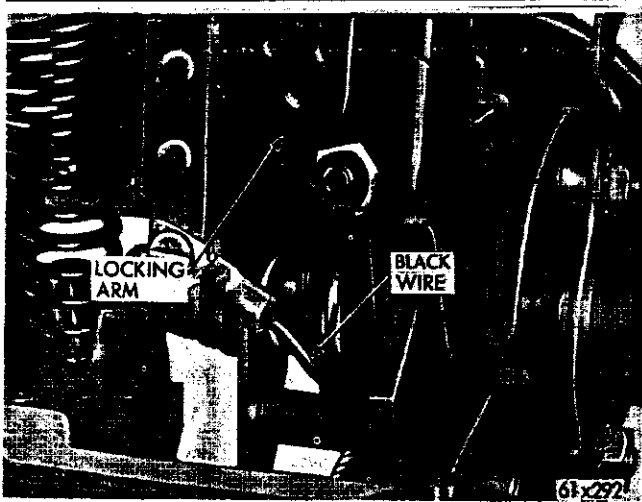

Fig. 47—Remove the Black Wire From Locking Arm Magnetic Coil and Terminal 1
(4) Disconnect the black wire from the terminal on the locking arm contact point #2 (Fig. 47).
(5) Remove the nuts attaching the motor to the housing and remove the motor.